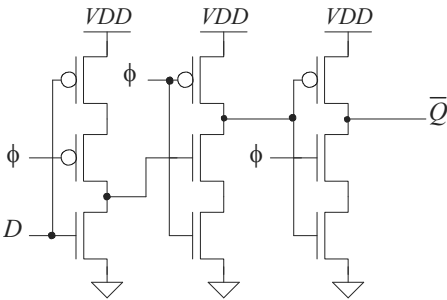

Figure 14.20 A true-single phase clocked FF, see Problem 14.15.
- 14.15** Show that the dynamic circuit shown in Fig. 14.20 is an edge-triggered flip-flop [2]. Note that a single-phase clock signal is used.